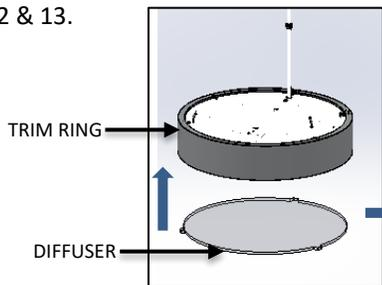

FIG. 12 – DIFFUSER INSTALLATION
4. Place the DIFFUSER into the TRIM RING by lightly bending the DIFFUSER in a taco shape as shown below in FIG. 12 & 13.